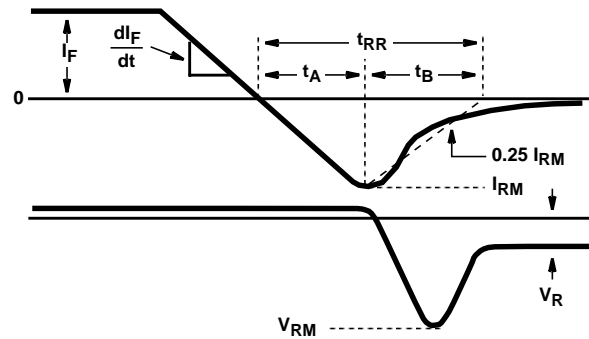

FIGURE 9. t_{RR} WAVEFORMS AND DEFINITIONS
- t_{RR} = Reverse recovery time (See Figure 9), summation of $t_A + t_B$.
- t_A = Time to reach peak reverse current (See Figure 9).
- t_B = Time from peak I_{RM} to projected zero crossing of I_{RM} based on a straight line from peak I_{RM} through 25% of I_{RM} (See Figure 9).